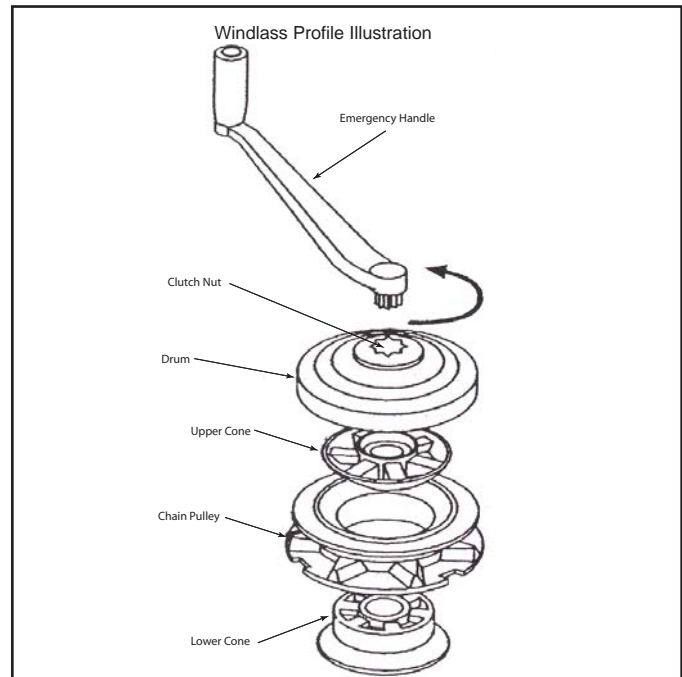

Fig. 6.7
- With the anchor in the stowed position, tighten the windlass clutch by inserting the emergency handle in the clutch nut. (See fig 6.7) and turn clockwise.